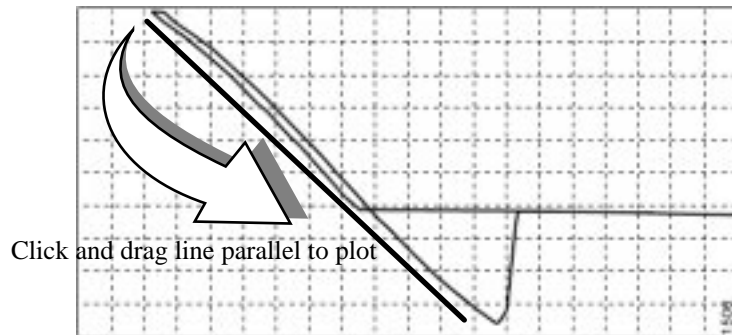

Figure 11.6. Use the mouse to set the *Sensitivity* parameter.
- Drag the mouse to position the “rubber band line” parallel to the contact portion of the force curve (see Figure 11.6).